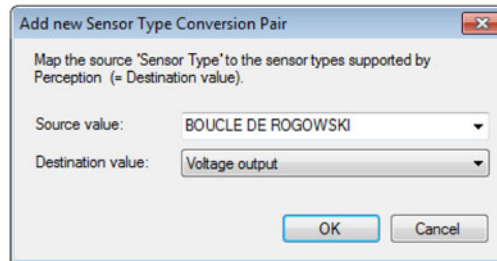

Figure 3.12: Add new Sensor Type Conversion Pair example
- 6 See Figure 3.12 for an example of how the dialog looks after you select the destination value.